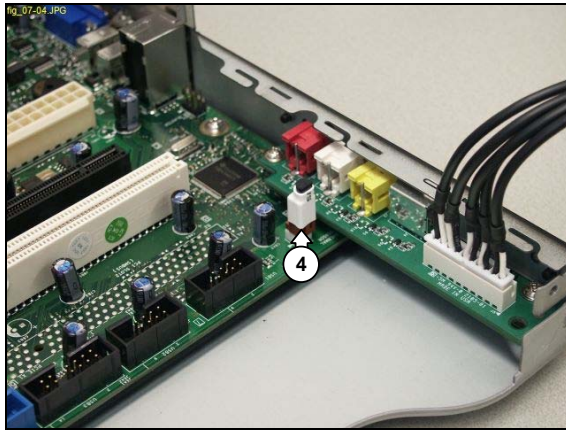

Figure 12.7-4
3. Remove the thermistor (4) from the motherboard. See Figure 12.7-4.